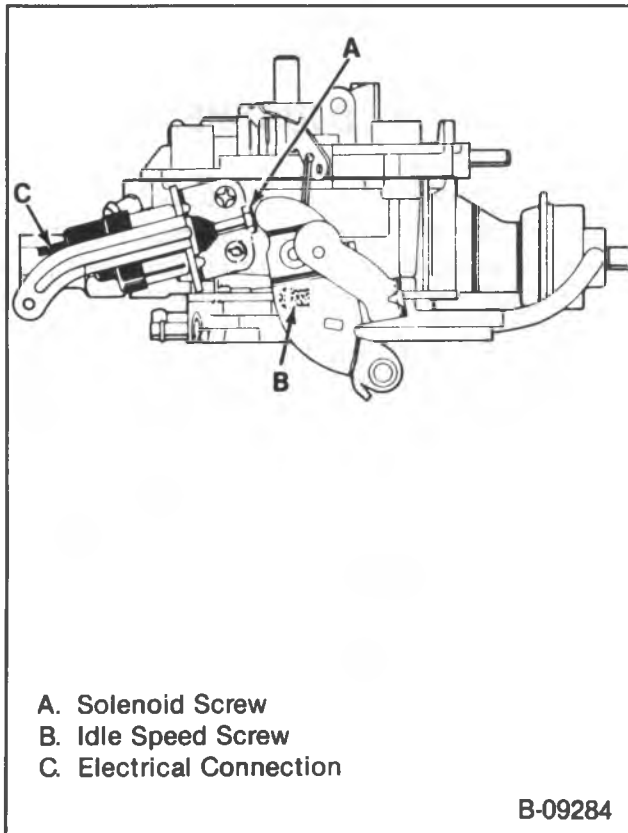

Figure 33 — Idle Speed Adjustment — With Idle Speed Solenoid
15. Check (and if necessary, adjust), idle speed solenoid activated speed, and fast idle speed. Refer to figures 33 and 34, and the Vehicle Emission Control Information label.